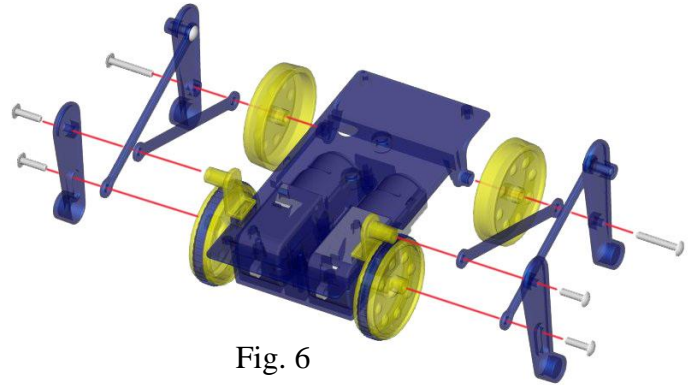

Fig. 6
4. Using the remaining long and short screws (18,19), connect the hind legs in last step and the remaining levers (11) and forelegs (6) to the chassis as shown in Fig. 6.